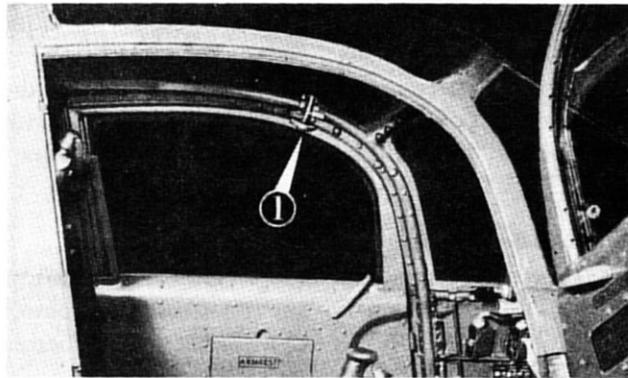
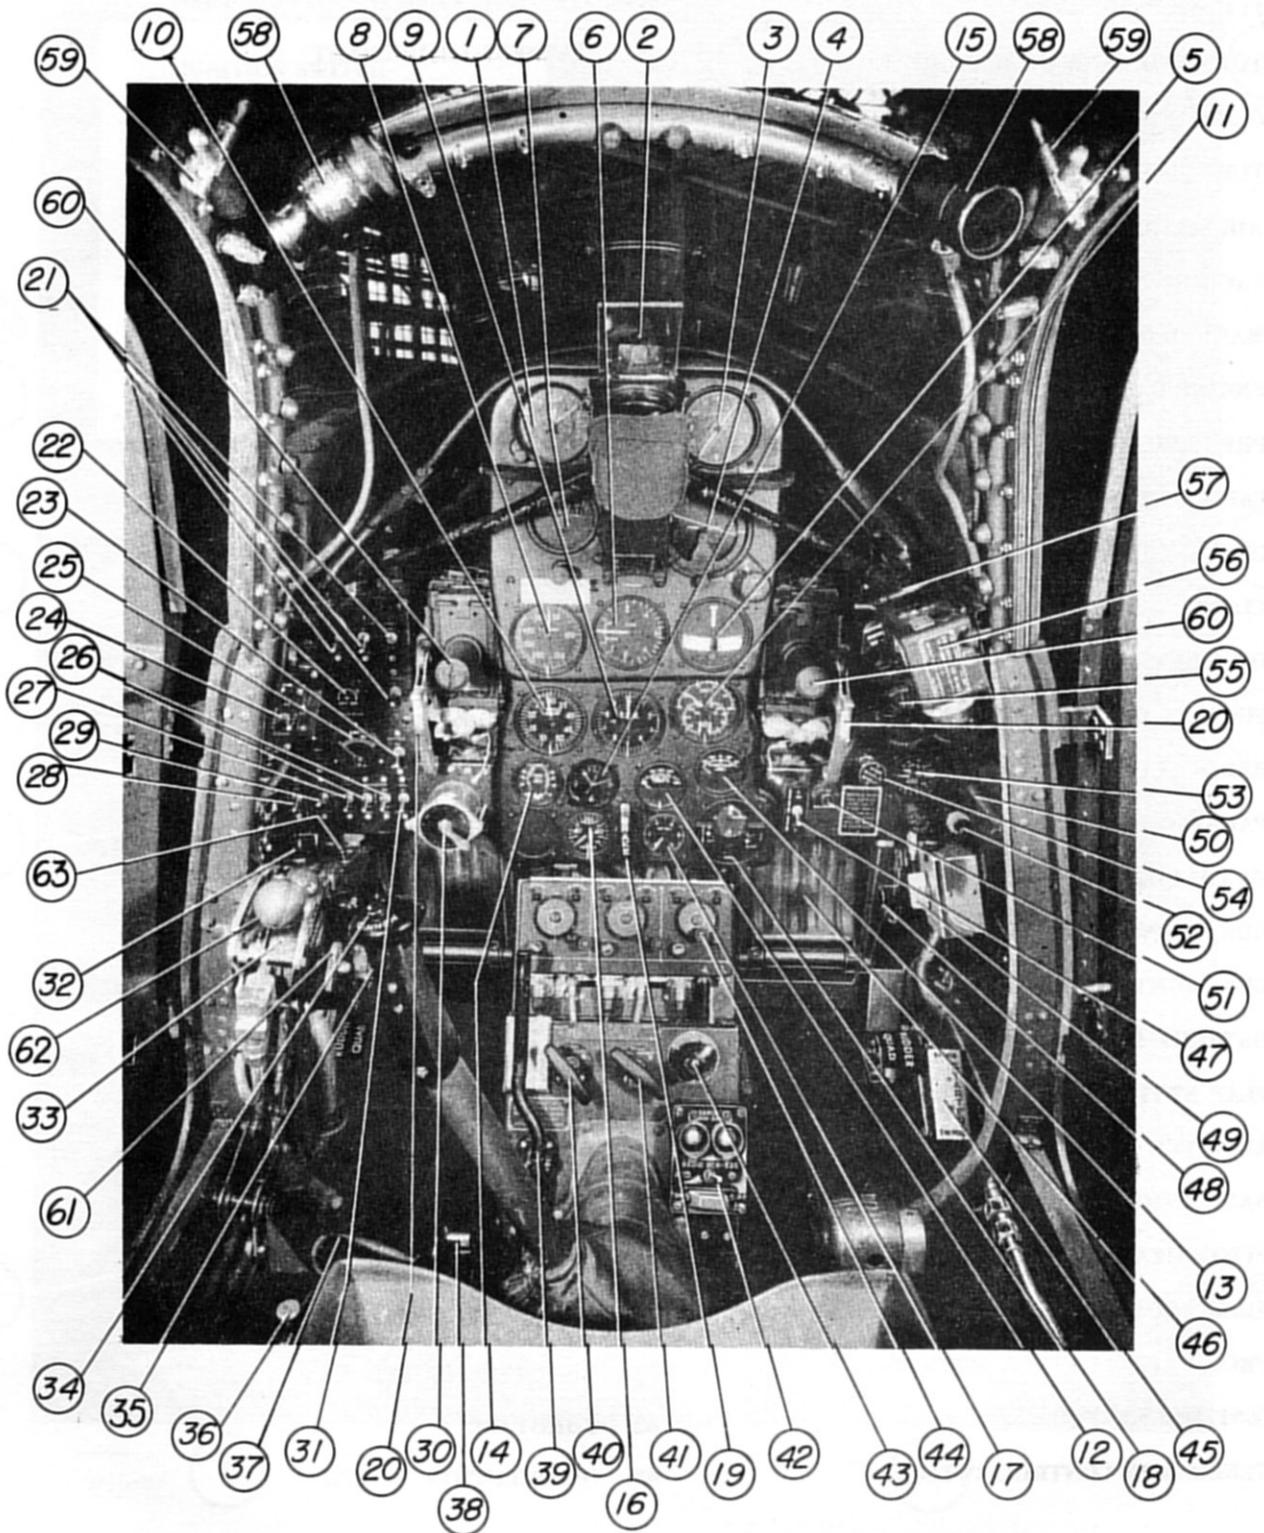

Figure 2—Auxiliary Door Latch
Figure 7—Instrument Panel and General Cockpit Arrangement For P-39K-1 and P-39L-1
1. Entrance to the cockpit is made through the automobile type door on the right side of the cabin. The left hand door is recommended only in case of emergency. An auxiliary latch (Fig. 2—1) is provided at the top of each door to secure it shut in flight. An emergency door release handle (Fig. 7—50) is located forward of each door.
The fuel gage (Fig. 7—14) is located on the instrument panel. This gage is put in operation when the ignition switch and battery switch are turned "On" (Fig. 7—30).
The parking brake handle (Fig. 7—19) is located at the bottom center of the instrument panel.
The engine controls are of the conventional type. The throttle control may be locked in place by the friction locks, located on the throttle quadrant. Turn the lock knob (Fig. 7—61) clockwise to lock the throttle in place.